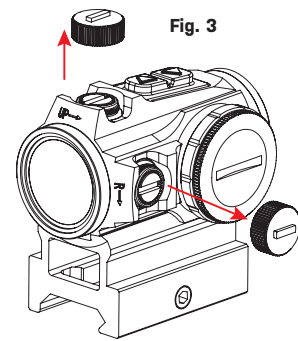

Fig. 3
2. To access the Elevation adjustment screw and the Windage adjustment screw, remove the Adjustment cap. See Fig 3.